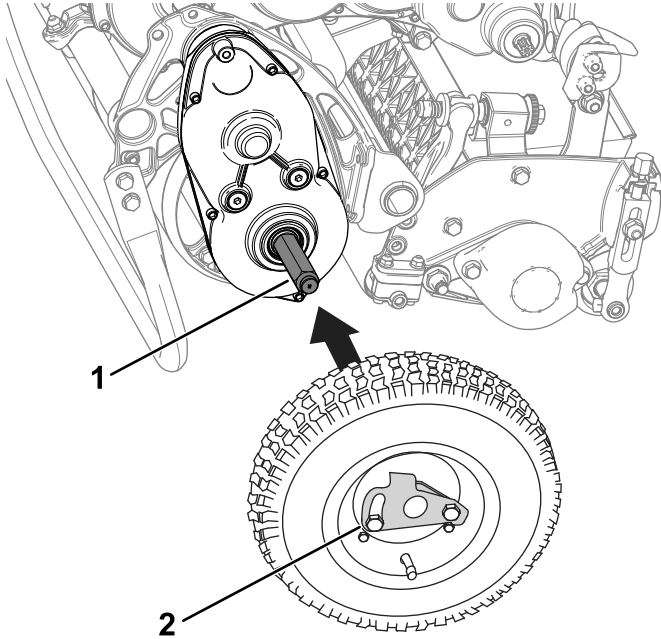

Figure 18
2. Slide a wheel onto an axle (Figure 18).
3. Pivot the wheel-locking clip (Figure 18) away from center of the wheel, allowing it to slide farther onto the axle.